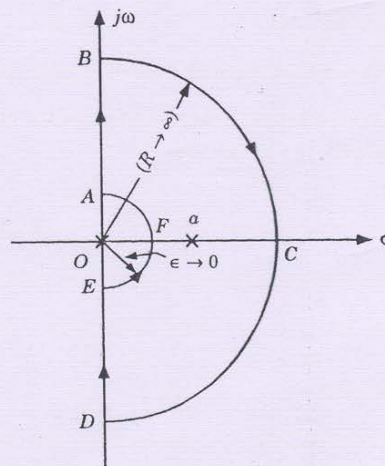

Fig. 9.46
Step 2: As there is one pole at origin. So in this case, Nyquist path will encircle the whole Right Half at S -plane (with Radius infinity), but avoid the pole at origin by a small circle with Radius ϵ approach to zero as shown in fig. 9.46.
Step 3: The different section form the Nyquist Contour are AB , BCD , DE and EFA as shown in fig. 9.46.